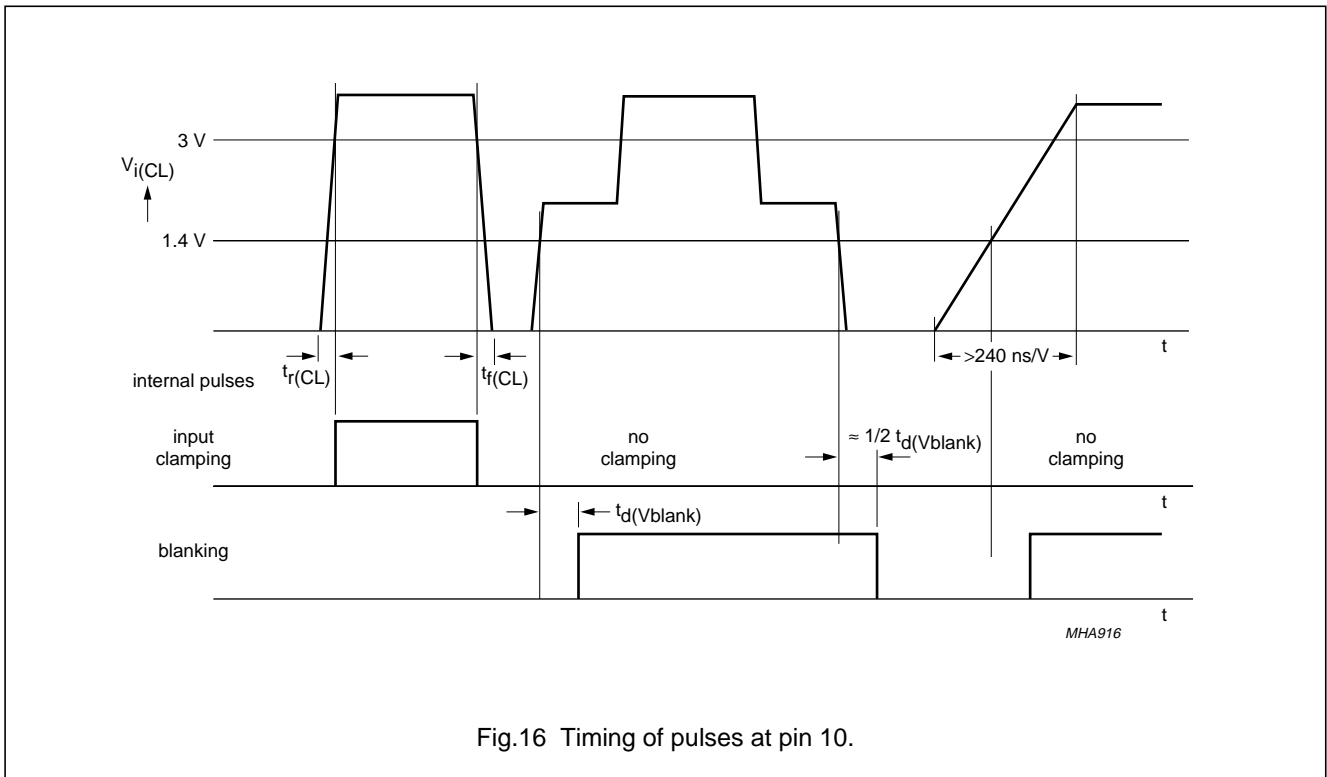

Fig.16 Timing of pulses at pin 10.
17. For $75 \text{ ns/V} < t_{r(CL)}$, $t_{r(CL)} < 240 \text{ ns/V}$, generation of internal input clamping and blanking pulse is not defined. Pulses not exceeding the threshold of input clamping (typical 3 V) will be detected as blanking pulse. Timing of pulses at pin 10 see Fig.16.